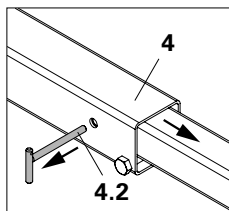

Fig. 16a
1. Remove pin (4.2). (Fig. 16a)
2. Telescope the fork arms (4).